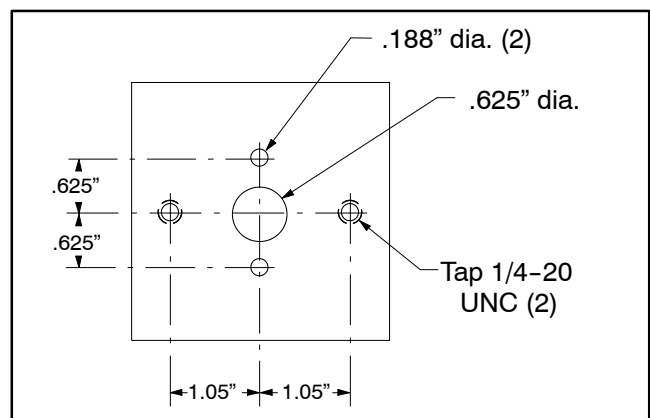

Figure 10
1. Using a 1/4 inch thick, 3" X 3" square piece of steel, make a seal removal tool as shown in Figure 10.